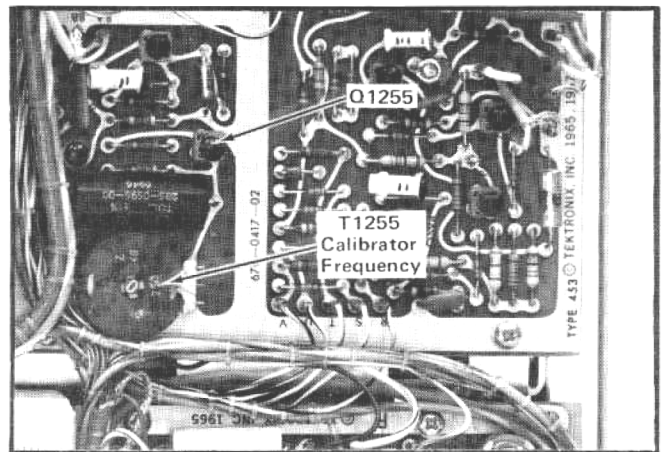

Fig. 5-6. Location of calibrator adjustments.
- b. Remove Q1255 (see Fig. 5-6) from its socket.
h. ADJUST—Calibrator Frequency adjustment T1255 (see Fig. 5-6) for one cycle of calibrator waveform for each marker (preliminary adjustment).